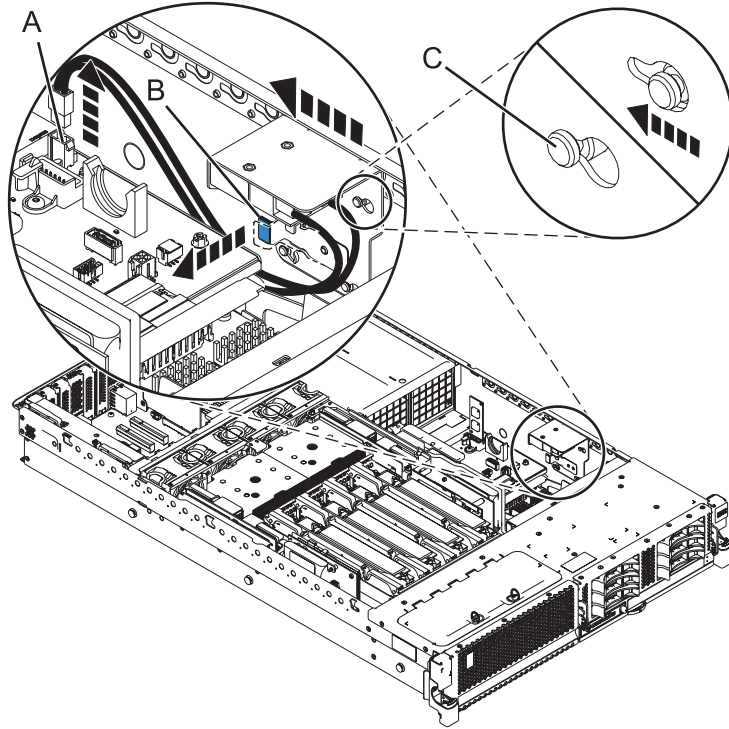

Figure 1. Removing a power interlock switch from a rack-mounted system
9. Disconnect the signal cable from its attached location to the system board **(A)**, as shown in Figure 1 on page 3.